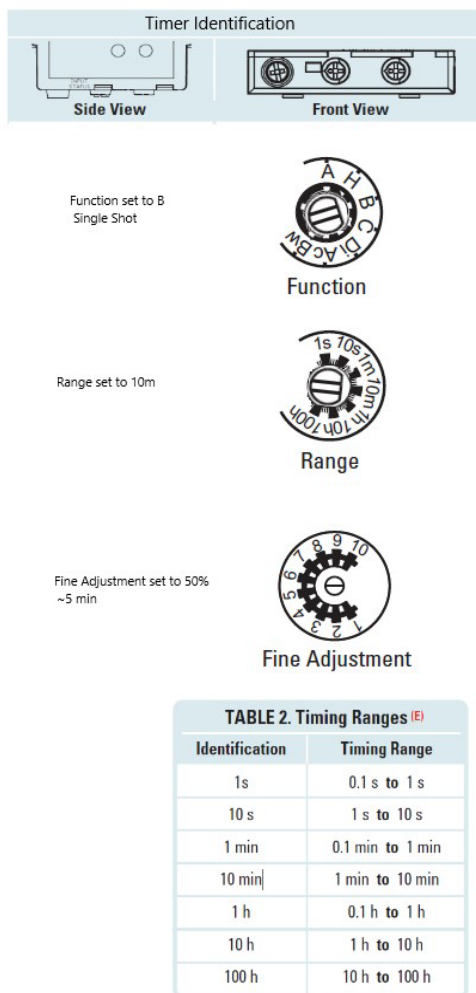

Figure 3-6 - Timer Controls
The optional Hush Timer is factory set to silence the audible siren for approximately five (5) minutes when the Hush button on the front panel is pressed. After the time elapses and an alarm condition remains active, the siren will reactivate. The time to silence the alarm can be adjusted by changing the Range and Fine Adjustment on the timer. The Range dial indicates the overall range or "timespan" that the timer will operate in. Factory default is 10m which means zero to ten minutes. After setting the Range, the Fine Adjustment dial can be set to indicate the precise time withing the Range. Factory default is set at five minutes. NOTE: The Hush Timer does not affect the strobe beacons. They will remain lit depending on the active alarm status. See figure 3-6.